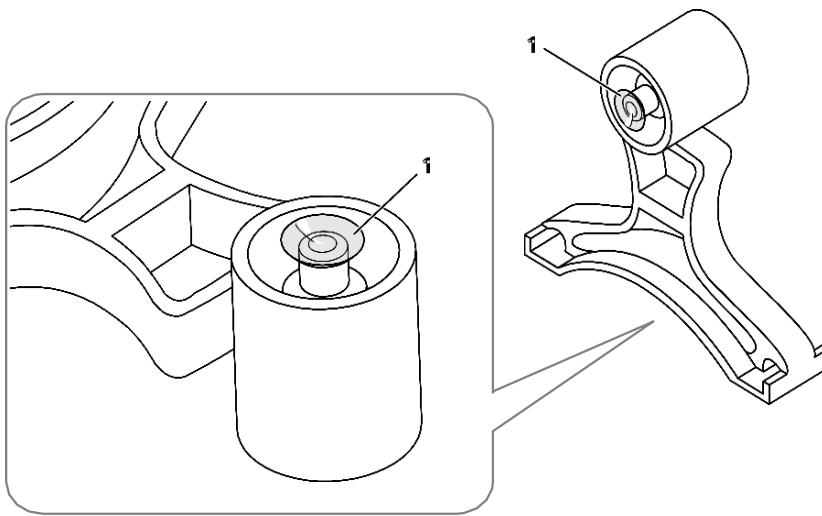

Fig. 49 Attaching the contact lens to the rear of the test eye
- Moisten the rear surface of the test eye and insert the contact lens (2, Fig. 1) and insert the contact lens so that its convex side points downwards to the test eye surface (Fig. 49).